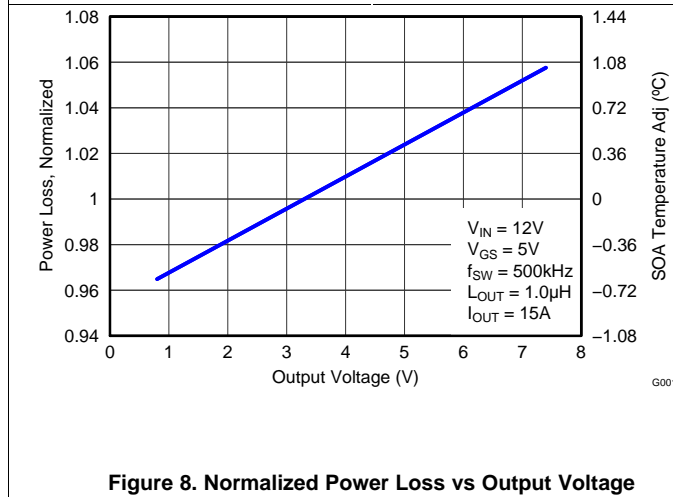

Figure 8. Normalized Power Loss vs Output Voltage
- Normalized Power Loss for output voltage ≈ 0.96 (Figure 8)
- SOA adjustment for output voltage $\approx -0.2^\circ\text{C}$ (Figure 8)